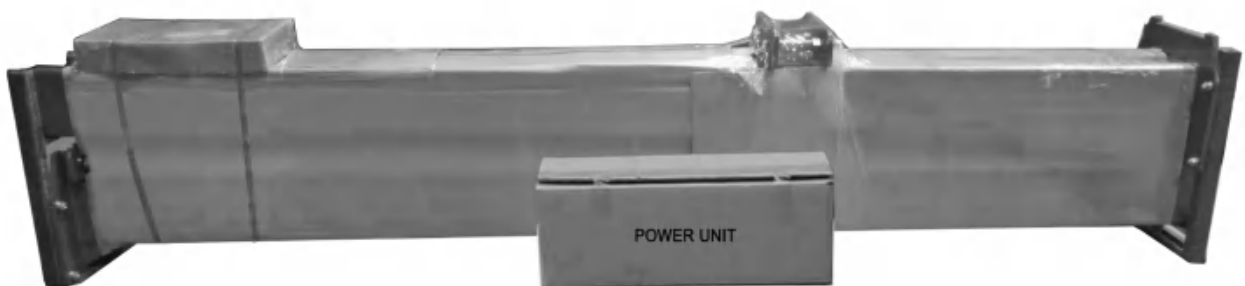

Fig. 8
1. Packaged lift and hydraulic power unit (**See Fig. 8**).